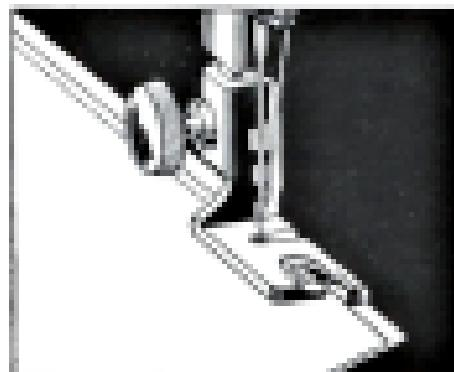

Fig. 38. Making a Felled Seam
- pieces by the projecting toe of hemmer, as shown in Fig. 38.